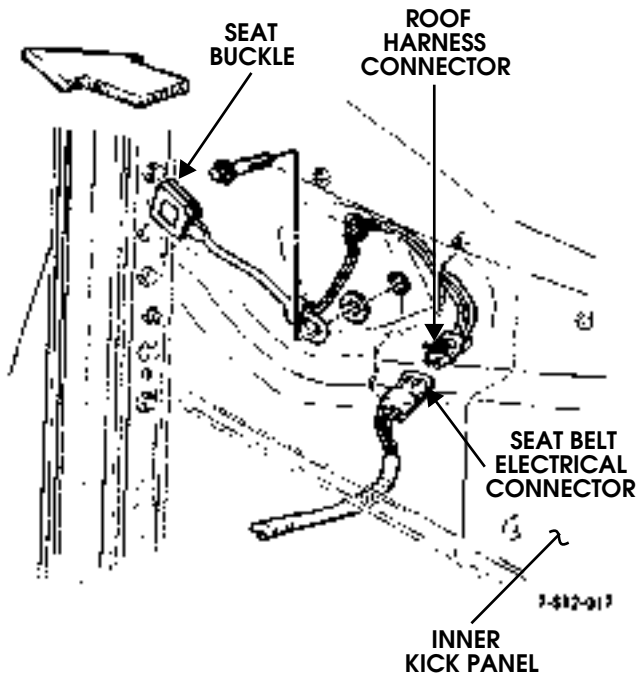

Figure 10-30: Seat Belt Electrical Connector Location
2. Remove screw/washer assembly, seat buckle, and washer from body (Figure 10-30).
9. Route seat buckle electrical connector through grommet in inner kick panel and plug seat buckle electrical connector into roof harness connector (Figure 10-30).